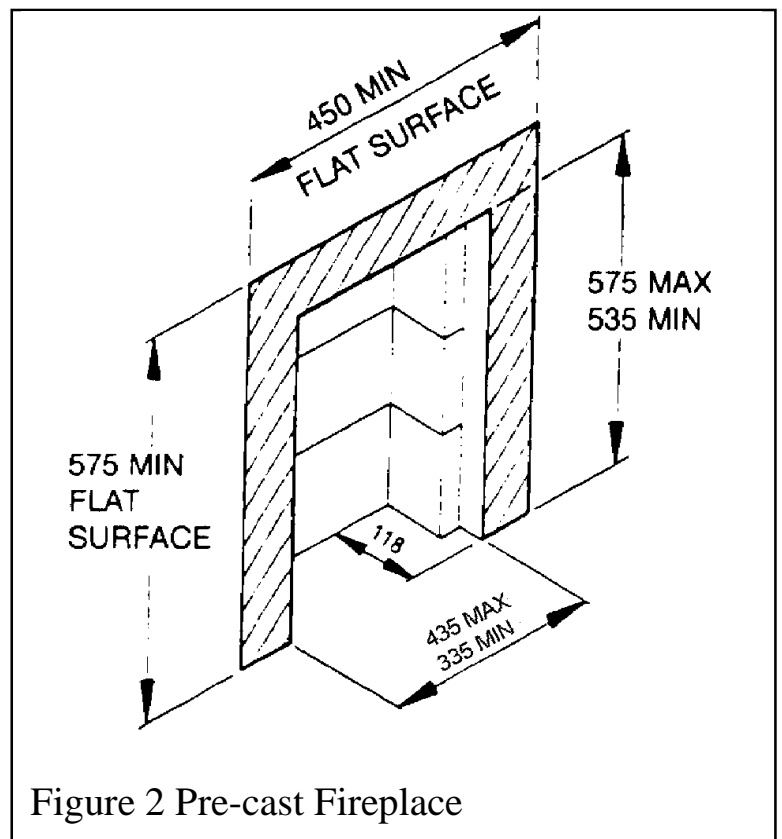

Figure 2 Pre-cast Fireplace
2.9.2 To a fireplace that has a precast concrete or clay flue block system conforming to BS1289 or BS EN 1806. The appliance is suitable for installations conforming to older versions of BS1289 as well as the current edition. The flue blocks must have a minimum width not less than 63mm and a cross-sectional area not less than $13,000\text{mm}^2$. Older editions of BS1289 required a cross-sectional area of $13,000\text{mm}^2$. The current revision of the standard requires $16,500\text{mm}^2$. This appliance is suitable in both cases. The total depth of the opening measured from the finished front of the fireplace (Including plaster, surround etc.) must be **not less than 118mm**. See figure 2.